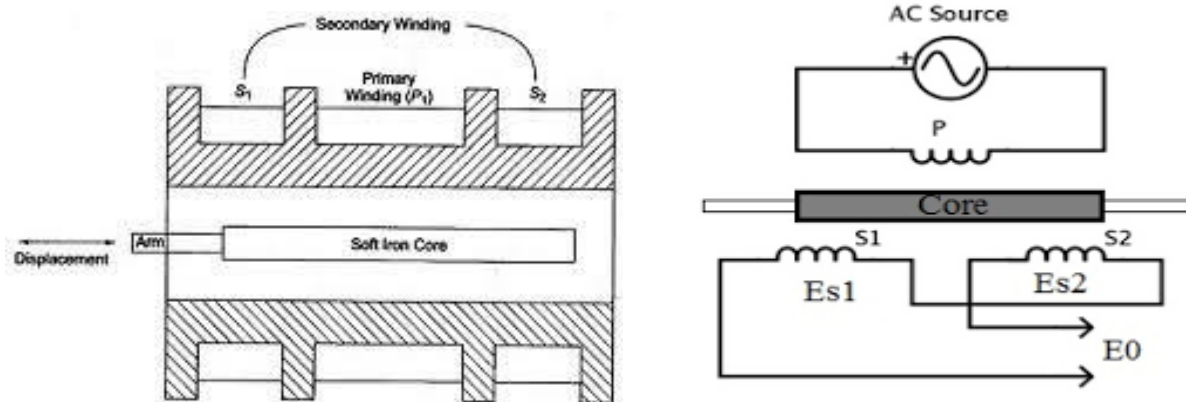

Fig. 1.1: schematic diagram of LVDT
**THEORY:** - LVDT is most widely used in the inductive transducer, which Convert the linear motion into electrical signals. The transformer consists of secondary winding having equal number of turns and is identically placed on the either side of primary winding .The secondary are connected in the opposition. The primary winding is connected to an alternating current source. The moveable soft iron core is placed inside the former. The displacement, which is to be measured, is applied to the core. The frequency of AC supply to primary winding may be between 50 Hz to 20 KHz. Since the primary winding is excited by AC source it produces an alternating magnetic flux, which in turn induces alternating flux in the two secondary winding. The output voltage of secondary S1 is  $E_{s1}$  and that of S2 is  $E_{s2}$ . As the two secondary are connected in the series opposition the net output voltage is the difference of the two voltages produced in the two secondary windings as shown in figure 1.1